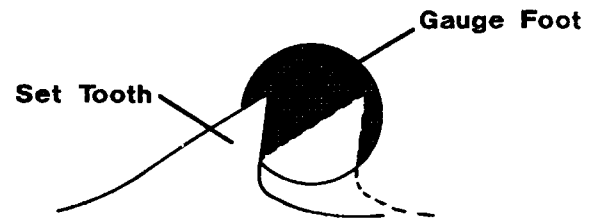

FIG 2-56
4. Remove the alignment shim and mount a blade in the blade supports as previously described. Readjust the clamping fixture and blade rest screws as described earlier. Rotate the blade around the supports until a tooth set toward the dial indicator is positioned in front of the gauge foot. Throw the clamp handle to clamp the blade so the tip of the tooth is located to one side of the gauge foot (See Figure 2-56). Note the reading on the dial indicator, unclamp the blade and move so that the tip of the same tooth is located on the other side of the gauge foot. Reclamp the blade and check the dial reading again. When the gauge foot is properly aligned in the horizontal plane, these two readings will be identical (+.0005).